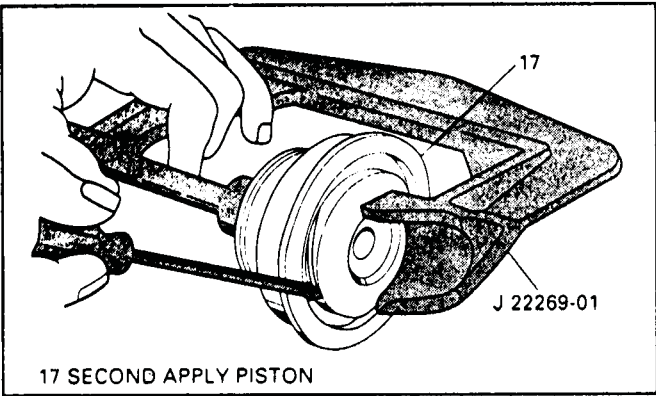

Figure 36
15. Install piston compressor J-22269-01 and remove retaining ring as shown in Figure 36.